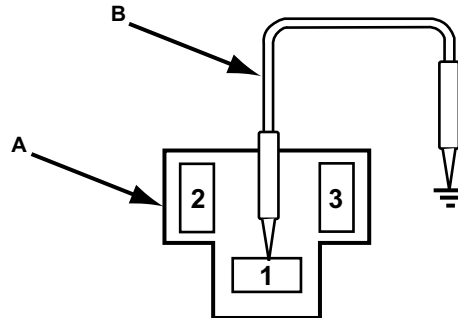

Figure 11-4 1994–2001 Sportage 3-pin ABS check connector
- Ground terminal 1 as shown in Figure 11-4 on page 121.